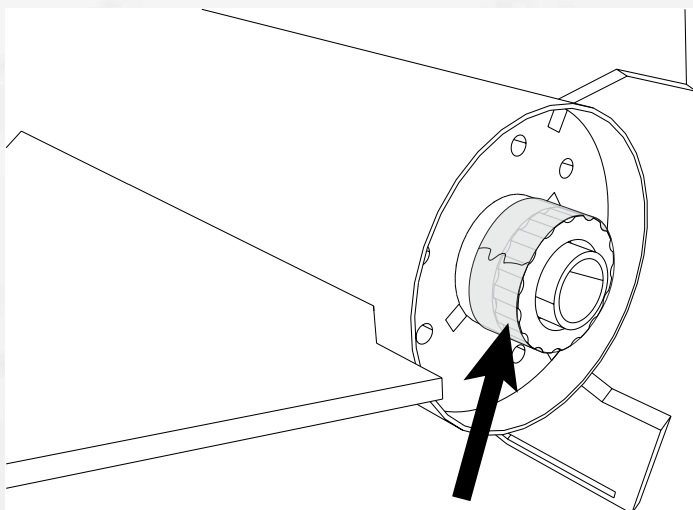

Figure 8 - A motor tube allows you to wrap tape around the outside to hold the engine in the rocket.
7. Allows you to wrap tape around the perimeter of the motor tube to keep the motor in the rocket as shown in Figure 8. This is a quick and easy way to keep a motor in the rocket. It is also a lightweight and very cheap motor retention method.
If the engine retention is going to be something like tape around the outside of the motor (shown in Figure 8), or if there is going to be a screw-on retainer, then the motor tube can possibly be a little shorter.